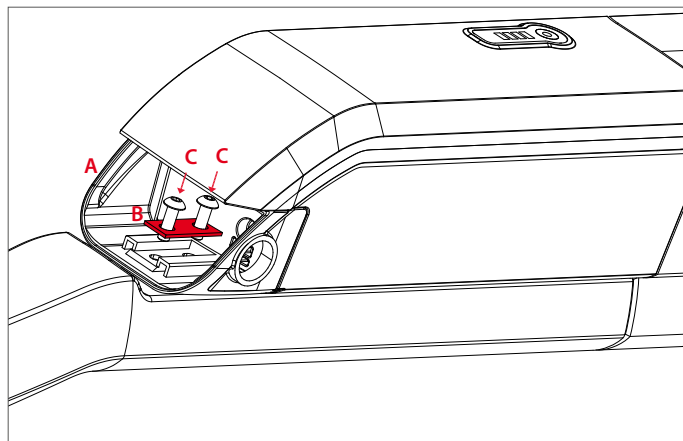

Figure 4.21 Mounting the fixing pad
2. Mount the lower part [A] using the fixing washer [B] and two M5 x 16 fasteners [C] (Fig. 4.21).